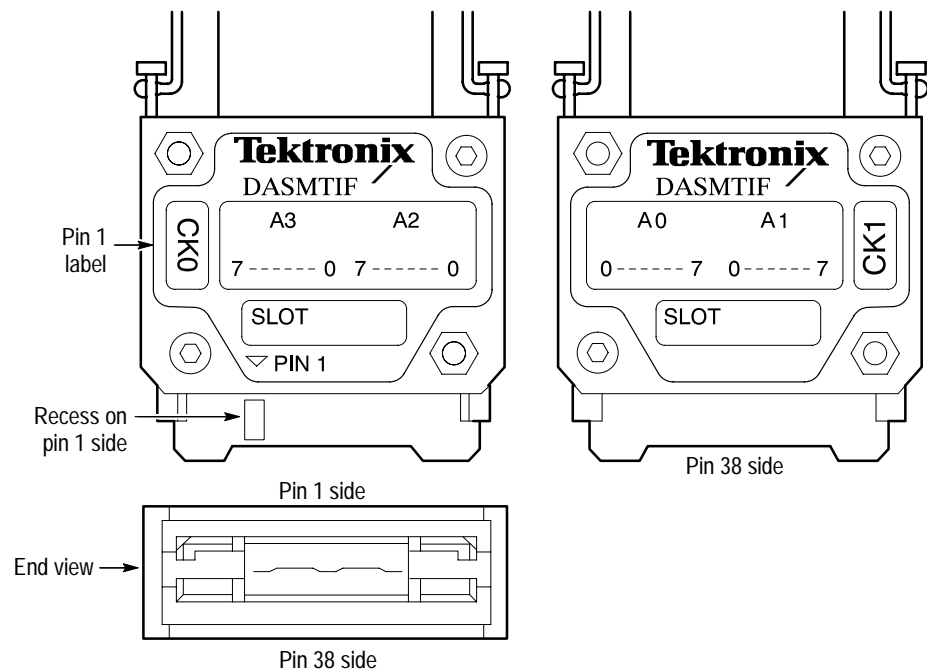

Figure 17: Applying new labels
2. Align the pin 1 case half with the pin 1 side of the connector, attach the case halves and reconnect the screws. Figure 17 shows how to identify the pin 1 side of the connector.
1. Locate the small pin 1 recess on the probe tip and apply the appropriate pin 1 label on that side. See Figure 17.